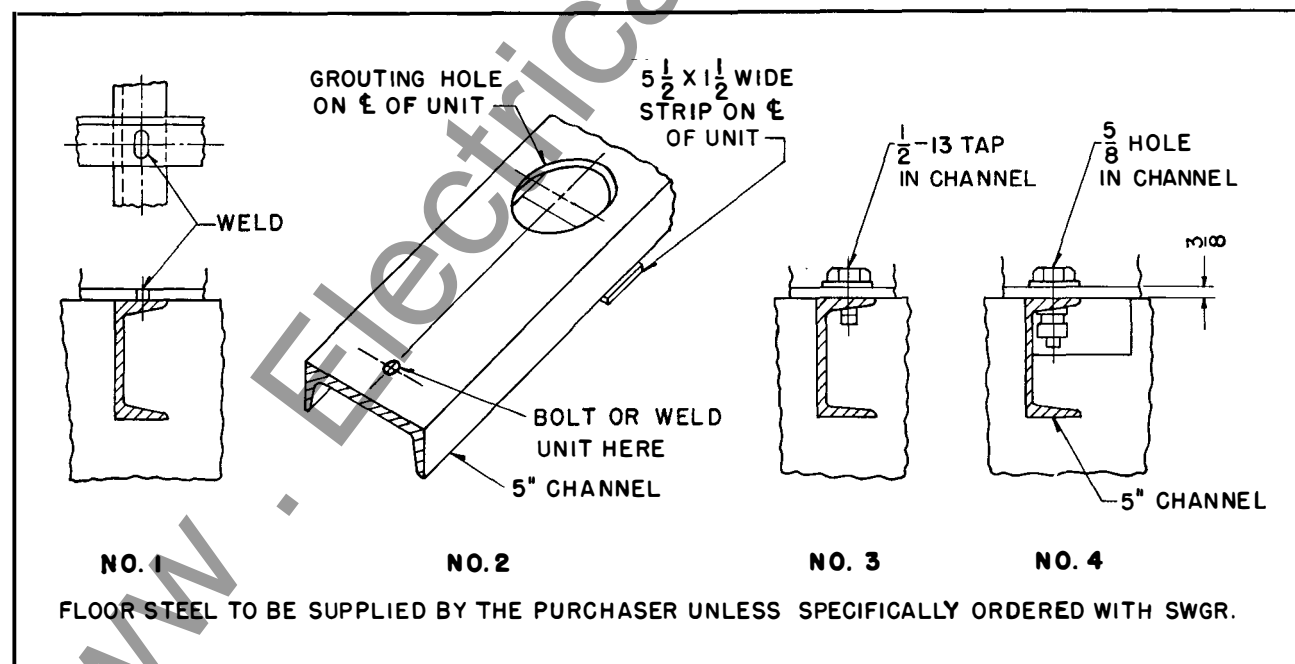

FIG. 14. Suggested Methods of Installing Steel Channels in Floor
Fig. 14 shows the recommended methods of installing the floor channel steel for an adequate foundation. Methods 1 and 2 are preferred when welding equipment is available, to eliminate the need for accurate lining up of bolts. The steel supporting channels used in the floor should be brought to the true plane of the finished floor (preferably level) and held there until the concrete is set.
8. After all units are properly aligned they should be fastened to the foundation by bolting or welding to the floor channels as shown on the floor plan drawing and in Fig. 14.